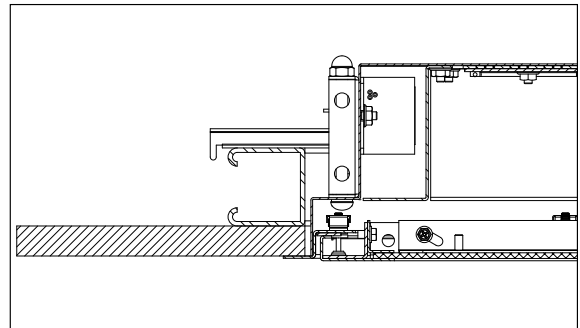

Figure 1
3. Swing arm brackets are used to mount fixture to ceiling structure. After creating the ceiling cutout, frame the opening on the plenum side of the ceiling. See Figure 1.